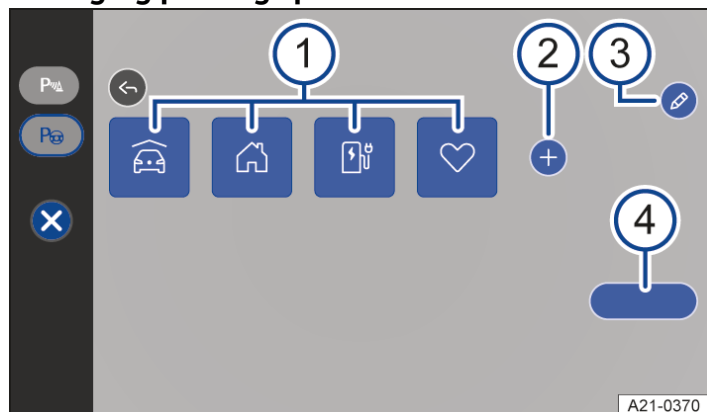

Fig. 1 Infotainment system: menu for Park Assist Plus with memory function.
- ① Maximum of five stored parking spaces.
- ② Add last parking procedure.
- ③ Edit stored parking spaces.
- ④ Start parking procedure.
1. Tap  → Fig. 1 .